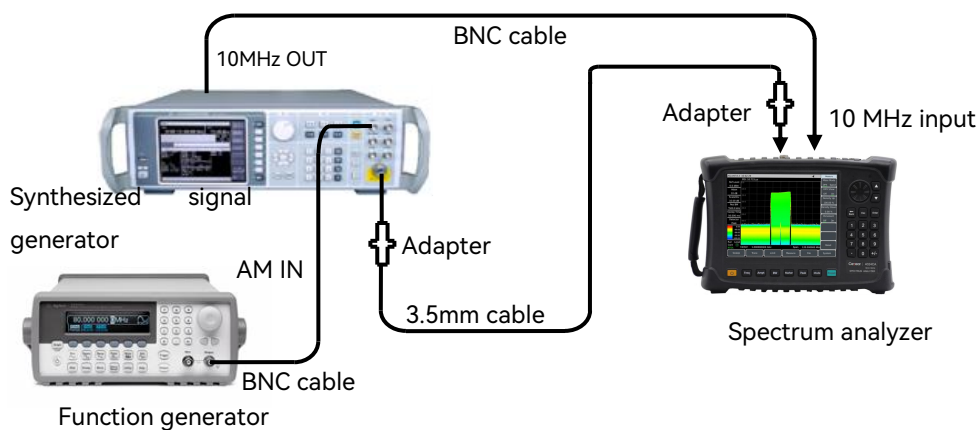

Figure 12-6 Sweep time accuracy test settings
1) Connect the test equipment according to Figure 12-6. The output of the function generator is connected to the amplitude modulation input of the signal generator, the RF output of the signal generator is connected to the RF input of the spectrum analyzer to be tested, and The synthesized signal generator provides frequency reference for the spectrum analyzer;